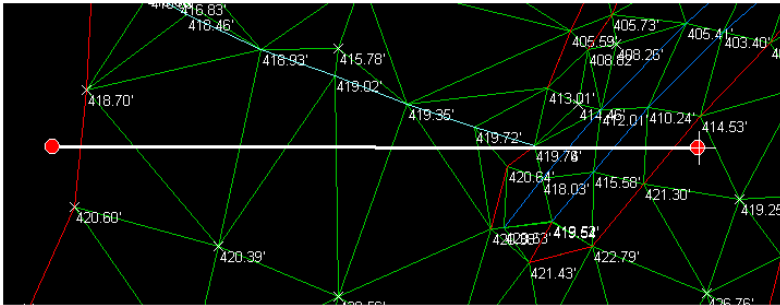

Figure 5-18. Profile View
2. In the Plan View, click a location at which to begin the profile. Stretch the line across the field and click once to end it (Figure 5-18).